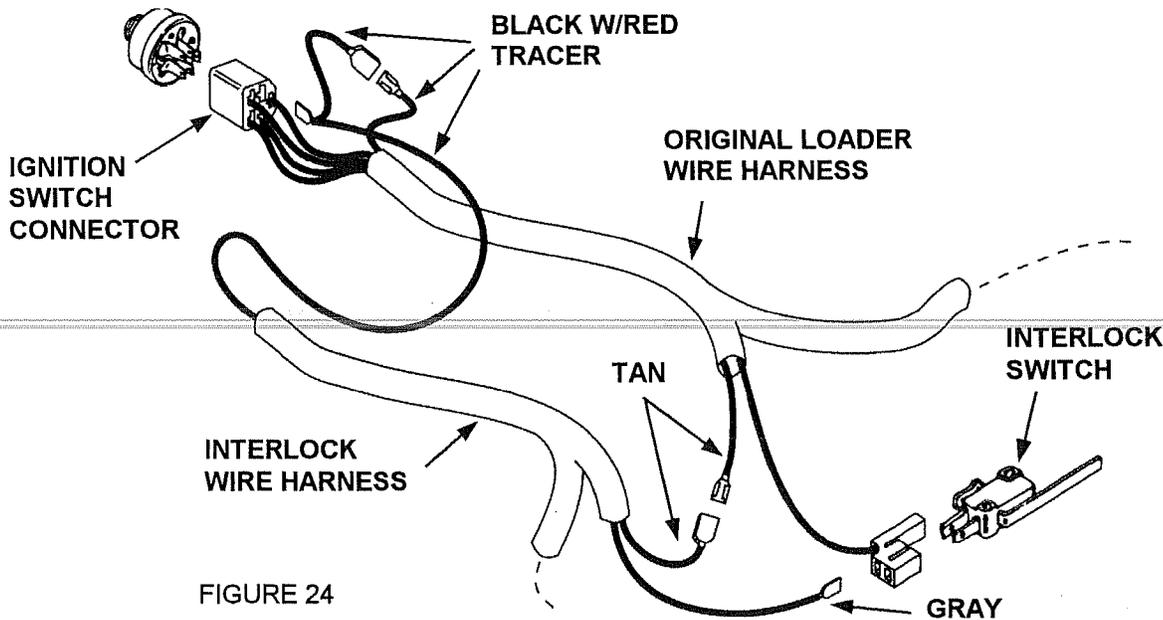

FIGURE 24
7. (See figure 24) Connect wires as shown. Make sure the connectors are locked in place.